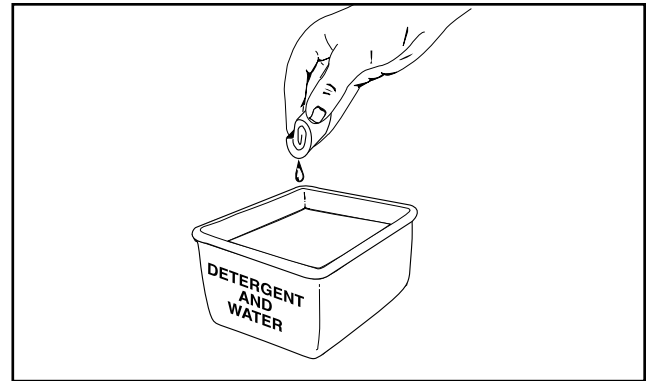

Fig. 37
3. Wash the filter in detergent and water (Fig. 37). Rinse the filter thoroughly and allow it to dry.